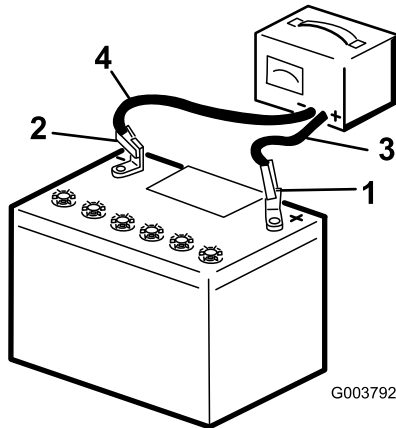

Figure 130
5. Connect the positive lead of the battery charger to the positive battery post (Figure 130).
6. Connect the negative lead of the battery charger to the negative-battery post (Figure 130).
8. When the battery is fully charged, unplug the charger from the electrical source, then disconnect the charger leads from the battery posts (Figure 130).